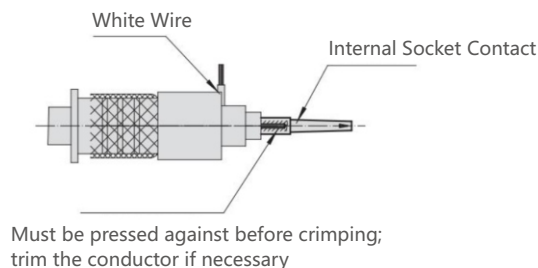

Figure 3.10
- ⑤ As shown in Figure 3.10, proceed as follows: